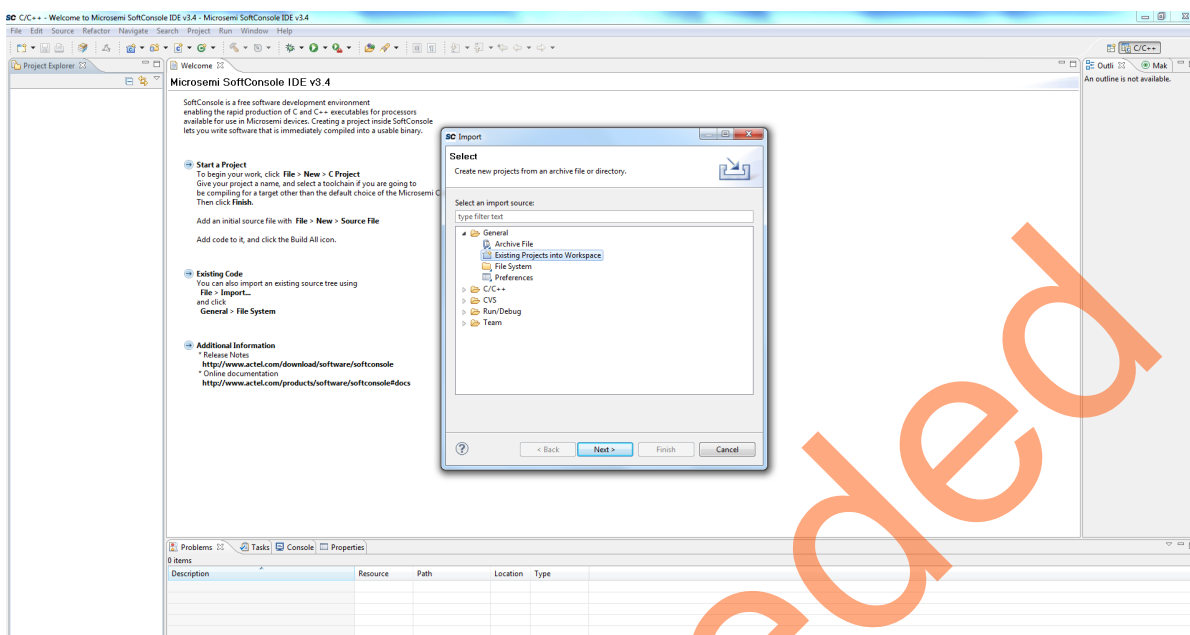

Figure 23 • Importing Existing Projects
3. Select **General > Existing Projects into Workspace** as shown in Figure 23.